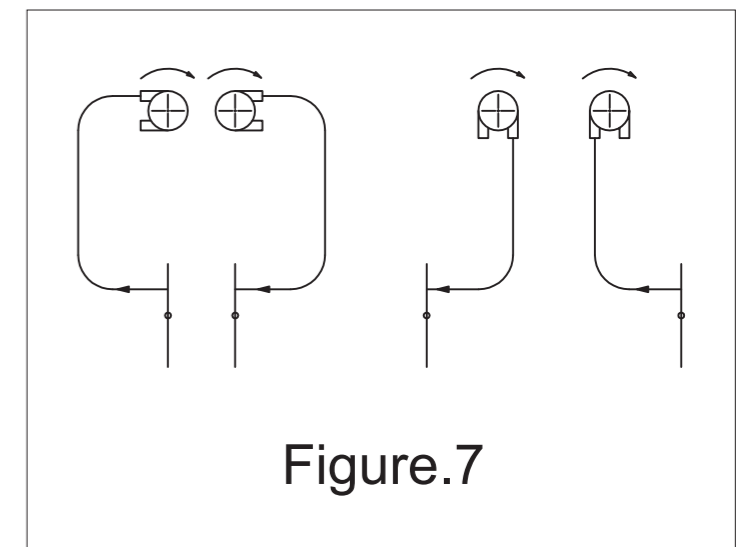

Figure.7
- Check the system installation by rotating the steering wheel. Clockwise rotation should move to starboard and Anti-Clockwise rotation should move to the port. The cable movement direction should correspond as per the figure7